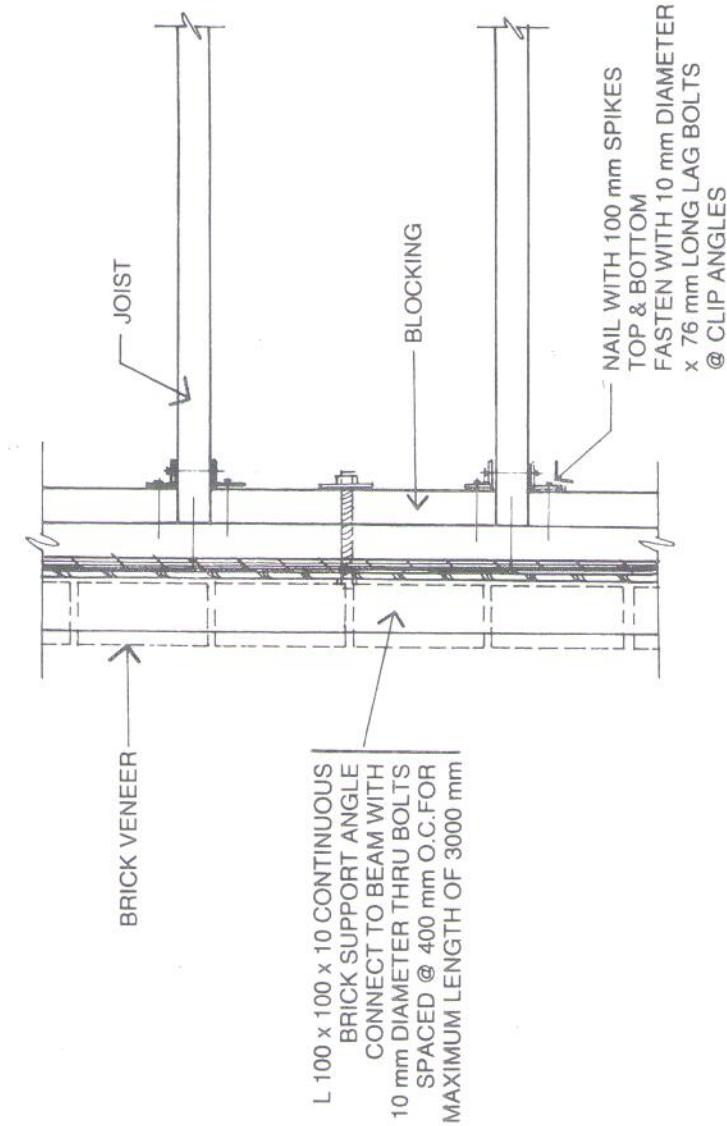

Figure 17 Typical brick angle support detail for bay window
- Figure 17 Typical brick angle support detail for bay window